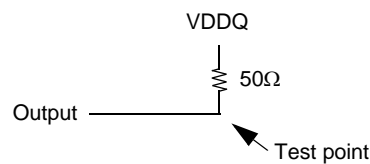

Figure 3 : Pulldown slew rate test load
b. Pulldown slew rate is measured under the test conditions shown in Figure 3.